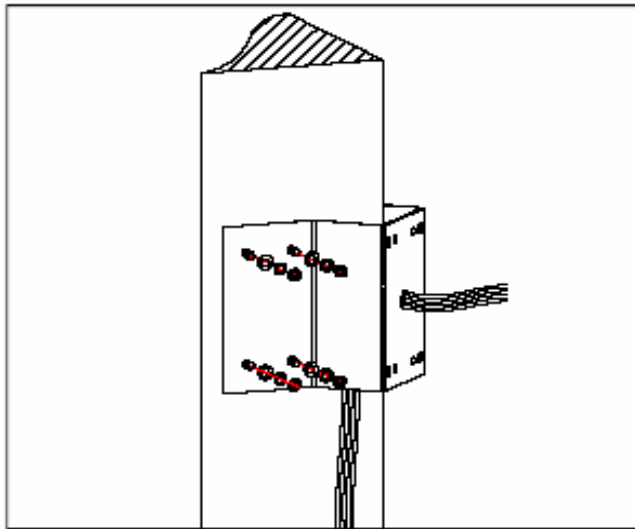

Fig 6
b. As shown in fig 6, use M8 screw nut to fix the base of corner mounted on the wall with all cables through the center holes of the corner mounted, marine glue and bracket. Enough wiring length should be left.